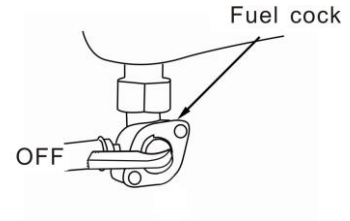

Fig.7
2. Set the fuel switch to "OFF" (Fig .7).